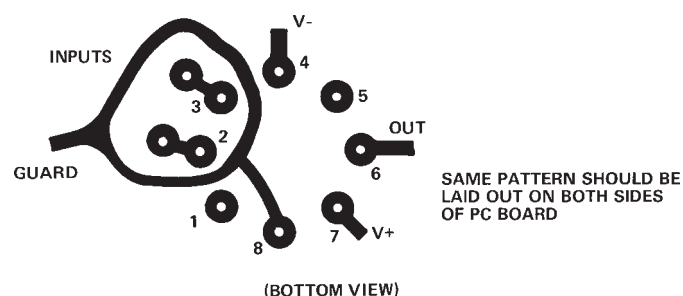

Figure 1. Board Layout for Guarding Inputs with Guarded TO-99 Package
2. The use of guarding techniques is essential to realizing the capability of the ultralow input currents of the AD515A. Guarding is achieved by applying a low impedance bootstrap potential to the outside of the insulation material surrounding the high impedance signal line. This bootstrap potential is held at the same level as that of the high impedance line, therefore, there is no voltage drop across the insulation and, hence, no leakage. The guard will also act as a shield to reduce noise pickup and serves an additional function of reducing the effective capacitance to the input line. The case of the AD515A is brought out separately to Pin 8 so it can also be connected to the guard potential. This technique virtually eliminates potential leakage paths across the package insulation, provides a noise shield for the sensitive circuitry and reduces common-mode input capacitance to about 0.8 pF. Figure 1 shows a proper printed circuit board layout for input guarding and connecting the case guard. Figures 2 and 3 show guarding connections for typical inverting and noninverting applications. If Pin 8 is not used for guarding, it should be connected to ground or a power supply to reduce noise.
3. Printed circuit board layout and construction is critical for achieving the ultimate in low leakage performance that the AD515A can deliver. The best performance will be realized by using a teflon IC socket for the AD515A; at a minimum a teflon standoff should be used for the high impedance lead. If this is not feasible, the input guarding scheme shown in Figure 1 will minimize leakage as much as possible; the guard ring should be applied to both sides of the board. The guard ring is connected to a low impedance potential at the same level as the inputs. High impedance signal lines should not be extended for any unnecessary length on a printed